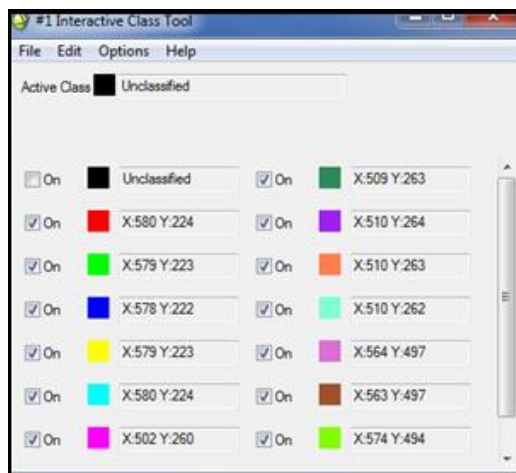

Figure 5.10a. View of the overlay image
- The Interactive Class Tool window appears (Figure 5.10a).